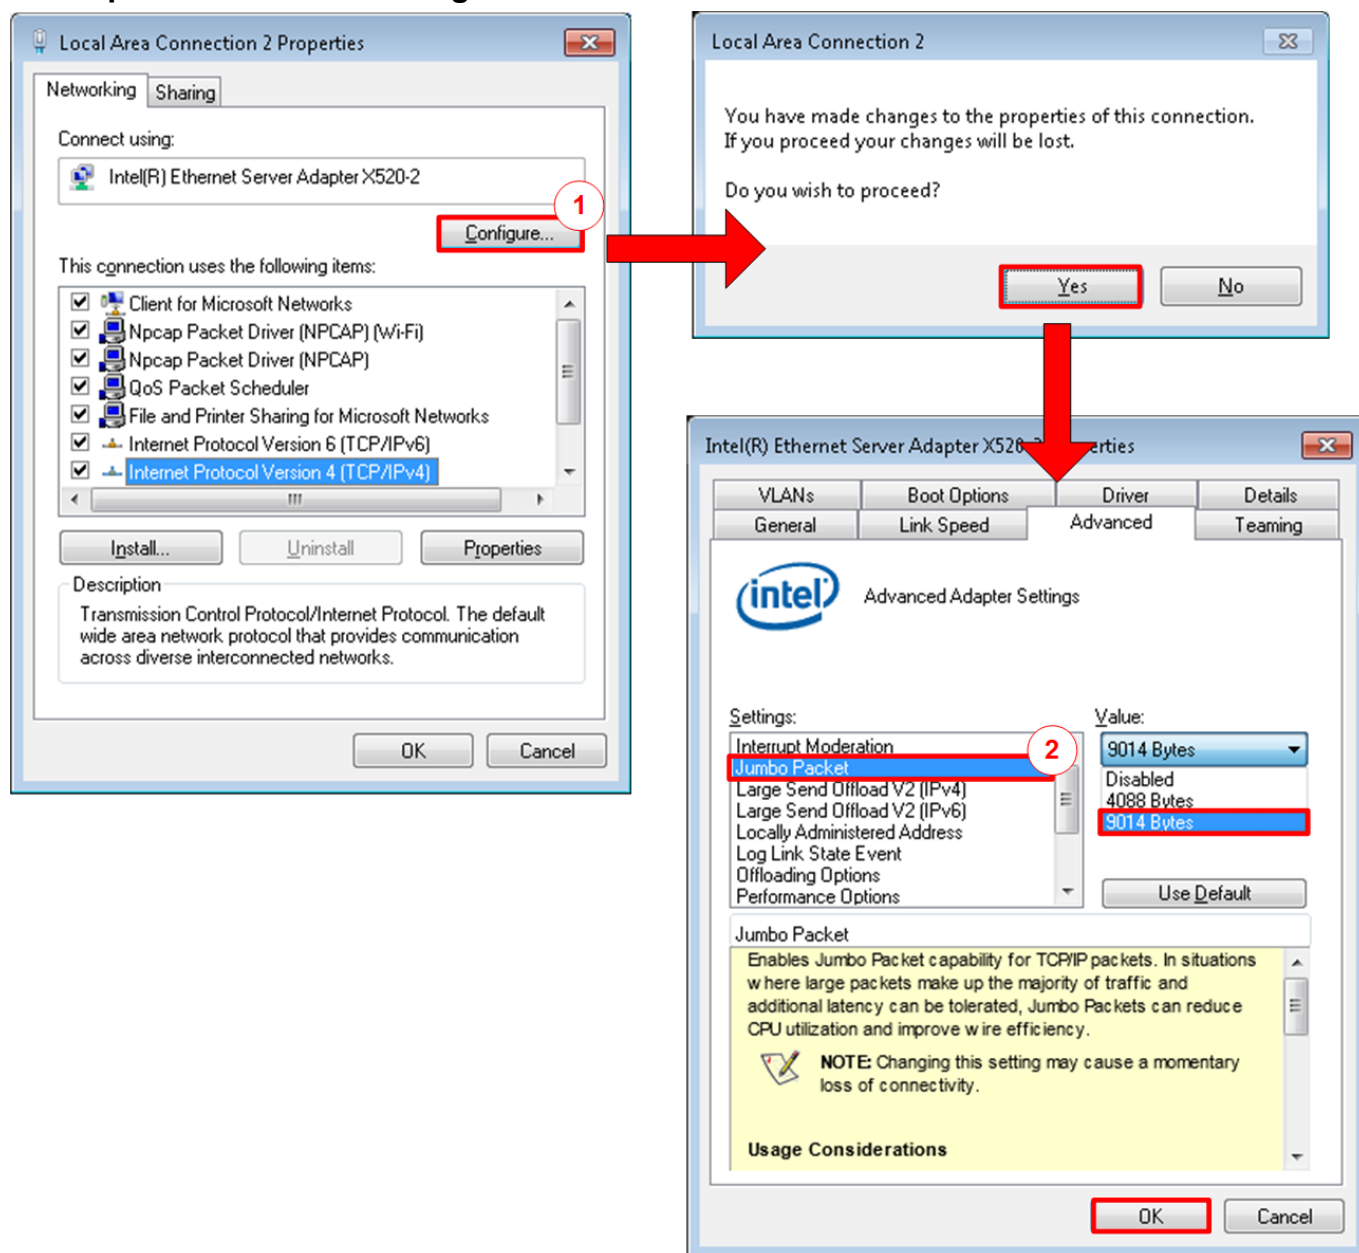

Figure 2-2 Set frame size = jumbo frame
- 1) On Local Area Connection Properties window, click “Configure” as shown in Figure 2-2.
- 2) On Advanced Tab, select “Jumbo Packet”. Set Value to “9014 Bytes” for Jumbo Frame support or set value to “Disabled” for non-Jumbo Frame support, as shown in the bottom window of Figure 2-2.